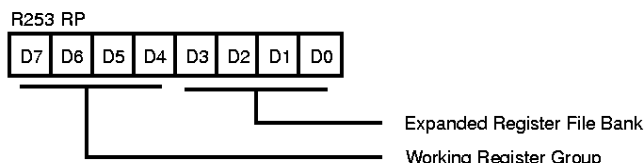

Figure 21. Register Pointer Register
**Program Memory.** The Z8 addresses up to 32 KB of internal program memory and 32 KB external memory (Figure 21). The first 12 bytes of program memory are reserved for the interrupt vectors. These locations contain six 16-bit vectors which correspond to the five user interrupts and one DSP interrupt. Byte 12 to byte 32767 consist of on-chip mask-programmed ROM. At addresses 32768 and greater the Z8 executes external program memory. In ROMless mode, the Z8 will execute external program memory beginning at byte 12 and continuing through byte 65535.
R241–R255, respectively). The instructions access registers directly or indirectly through an 8-bit address field. This allows a short, 4-bit register address using the Register Pointer (Figure 21). In the 4-bit mode, the register file is divided into 16 working register groups, each occupying 16 continuous locations. The Register Pointer addresses the starting location of the active working register group (Figure 24).